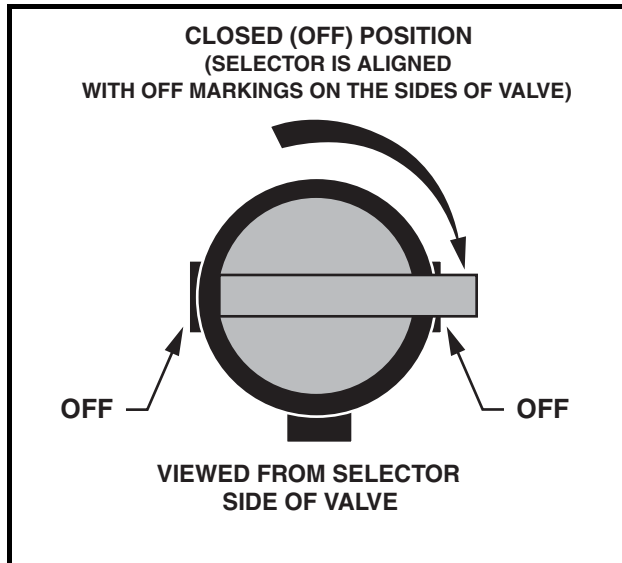

Figure 10 Fuel Shut-off Valve – Closed Position
2. Turn the key switch to the OFF position and place the Forward/Reverse handle in the NEUTRAL position. Remove the key and turn the fuel shut-off valve to the closed (OFF) position when the vehicle is not in use (**Figure 10, Page 21**). **See also Figure 20, Page 30.**
- Turn the fuel shut-off valve to the closed (OFF) position (Figure 10, Page 21).
- Turn the fuel shut-off valve to the closed (OFF) position (Figure 10).
- 3.1. Place the Forward/Reverse handle in the NEUTRAL position. Turn the fuel shut-off valve to the closed (OFF) position (**Figure 10**) and run the engine until fuel remaining in the carburetor and fuel lines is depleted and the engine stalls.